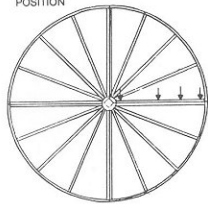

Figure 3.
STEP 3 Place the two halves together, face down, line up the pre-drilled holes and place the $\frac{1}{4}$ "-20x2" bolts through the three outermost and one innermost holes. See Figure 3. **TIGHTEN FINGER TIGHT ONLY AT THIS POINT.** Now make sure all the quadrants are properly joined and flush at each assembly point. **THIS IS VERY IMPORTANT TO ASSURE THE CURVE OF THE REFLECTOR IS MAINTAINED AND SUPPORTED CORRECTLY.** Wrench tighten all bolts.